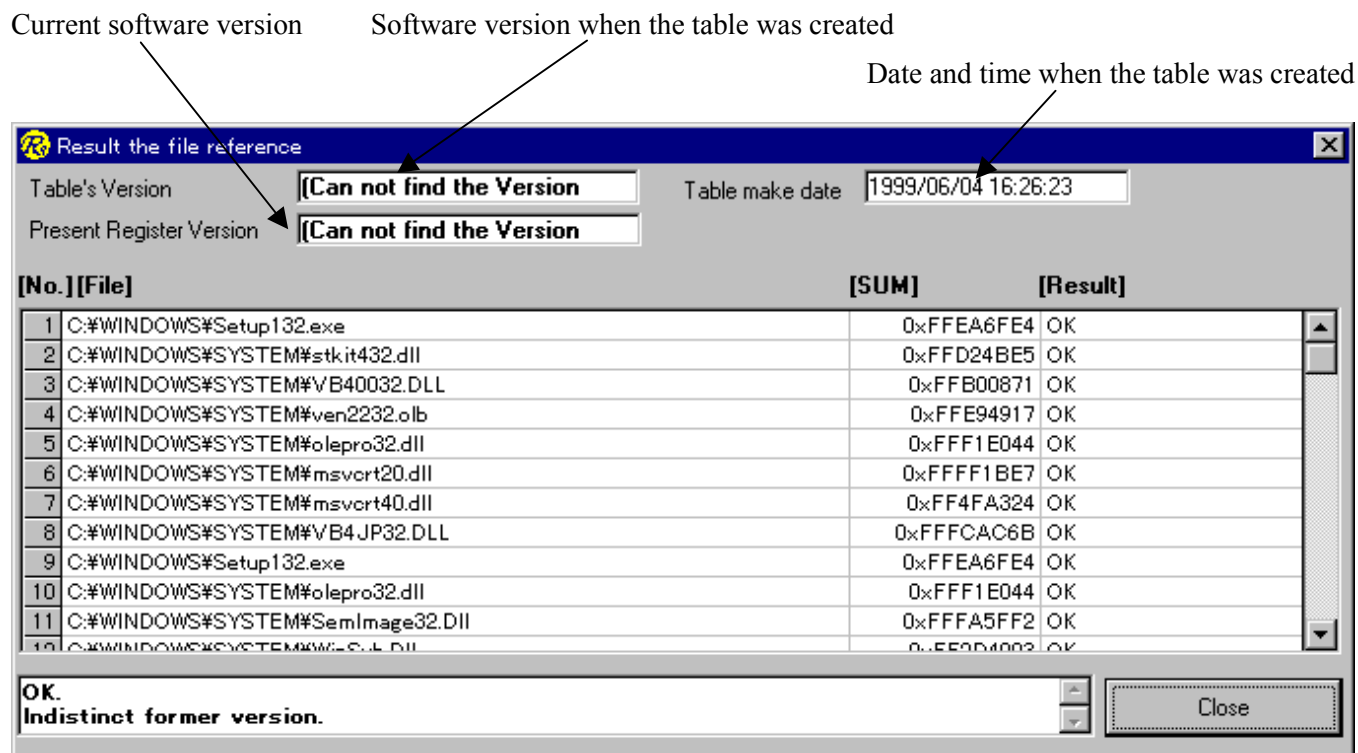

Figure 8-10: Comparison Screen between SUM Files and Current Files
- (i) The version of the S-5200 as of the time when the SUM file was created and the current version are displayed in the “Table’s version” and “Present Register Version” fields on the SEM file comparison screen (**Figure 8-10**).